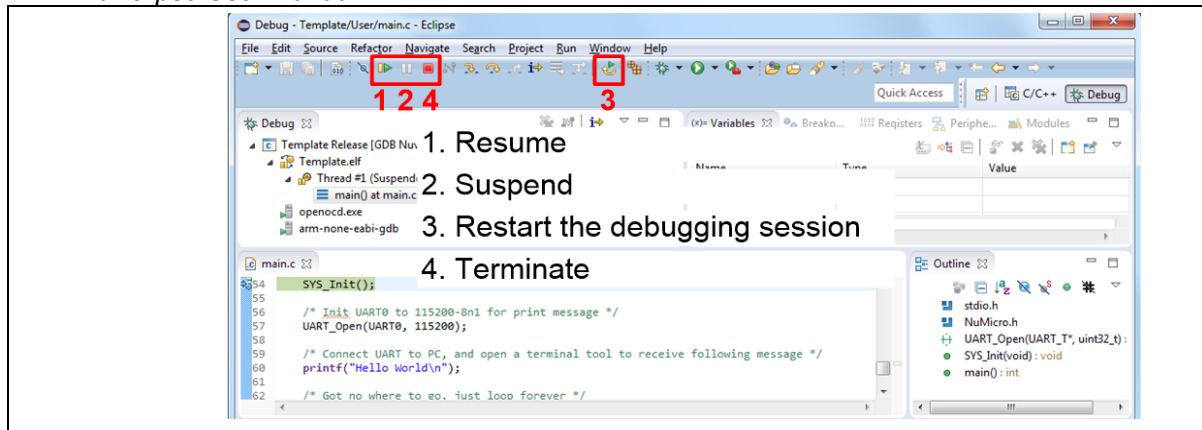
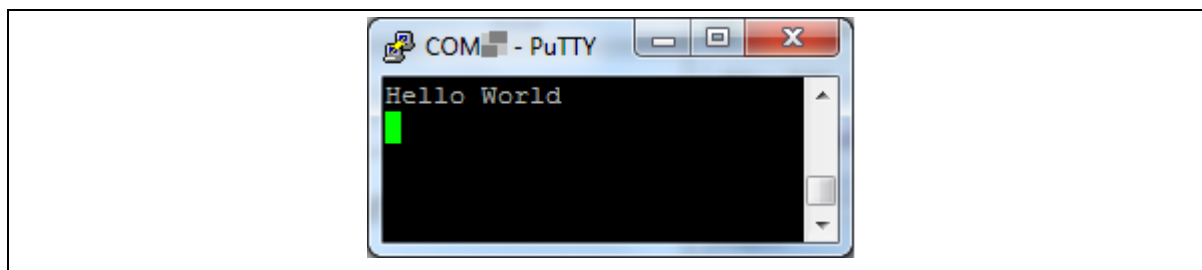

Figure 4-26 NuEclipse Debug Mode
Figure 4-27 Debug Message on Serial Port Terminal Windows
6. Figure 4-26 shows the debug mode under NuEclipse. Click “**Resume**” and the debug message will be printed out as shown in Figure 4-27. User can debug the project under debug mode by checking source code, assembly language, peripherals’ registers, and setting breakpoint, step run, value monitor, etc. For more information about how to use NuEclipse, please refer to the *NuEclipse User Manual*.